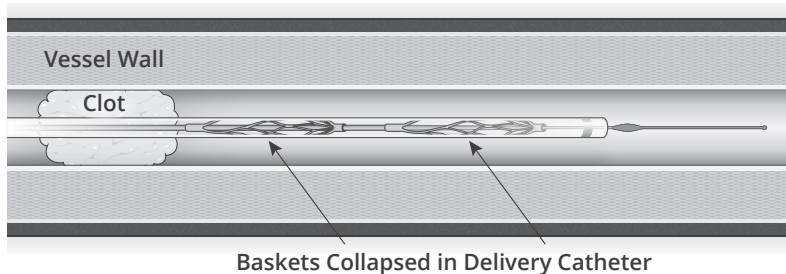

Figure 5
5. Advance the basket wire through the delivery catheter until the tip of the basket wire exits the delivery catheter but the distal basket remains within the catheter at its tip (see Figure 5). Confirm placement under fluoroscopy.